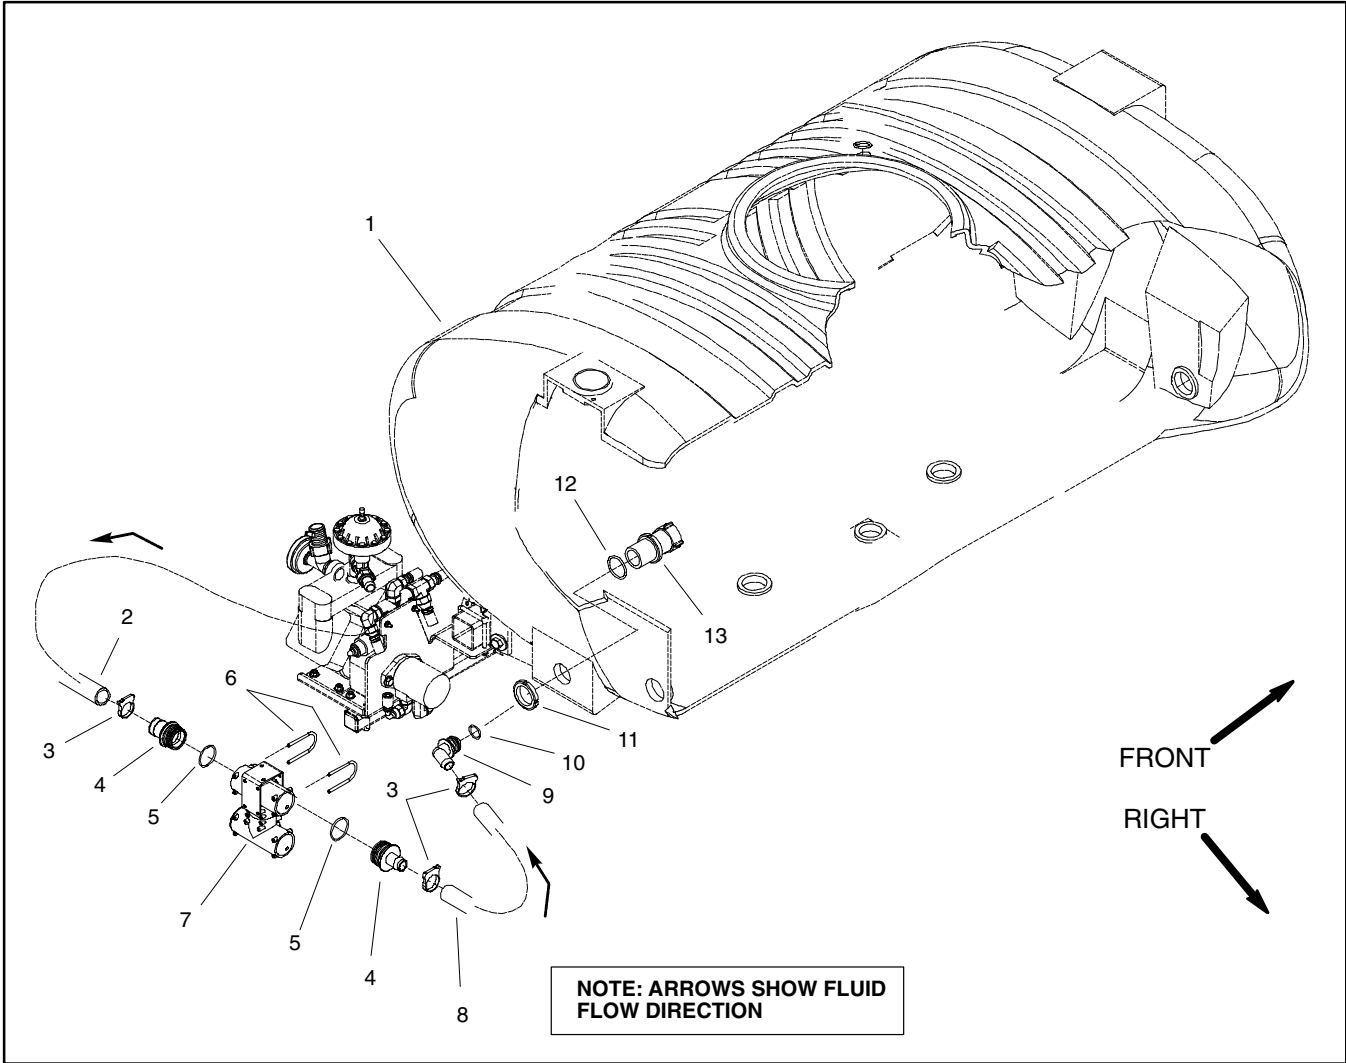

Figure 15
### Removal (Fig. 15)
4. Remove pressure relief valve from spray tank using Figures 15 and 16 as guides. Discard all removed o-rings and gaskets.
### Assembly (Fig. 15)
2. Install pressure relief valve using Figures 15 and 16 as guides. Replace all removed o-rings and gaskets.